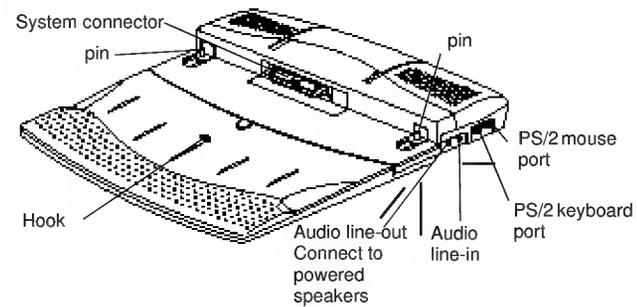
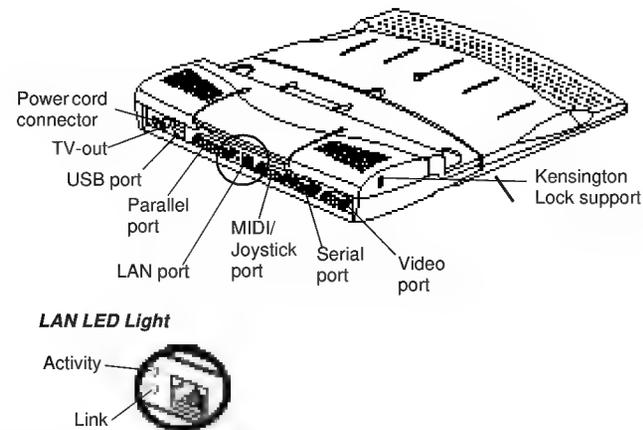

Figure 29. Front view of the Mini Dock III
Figure 30. Back view of the Mini Dock
6. Connect peripheral devices to the Mini dock according to Figure 29 and Figure 30.